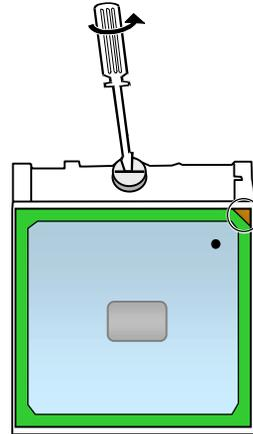

Figure 2-8 Remove the CPU
7. Loosen the screw by a flat screwdriver,upraise the CPU socket to unlock the CPU. (Figure 2-8)